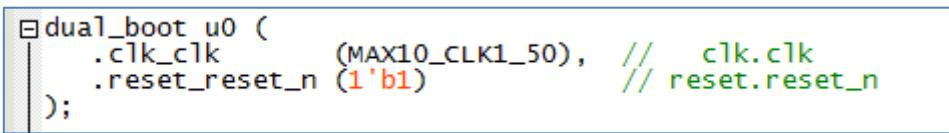

Figure 6-10 Add the dual_boot module in top file.
- Click **Close** and **Finish** to return to the window and add the dual_boot qsys into the top file as shown in **Figure 6-10**, and add the dual_boot.qip file to the project and save.